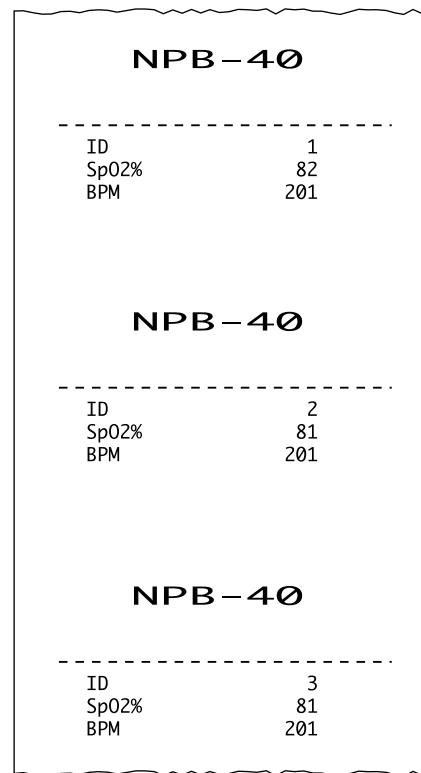

Figure 3-4: Typical Data Print Out
27. Verify that the PRINT icon is illuminated on the NPB-40 display, that the printer begins printing and that the printer prints out data similar to that shown in Figure 3-4. As data stored in steps 24, 25, and 26 is printed out, the NPB-40 display will indicate "1-Id", "2-Id", and "3-Id", respectively.